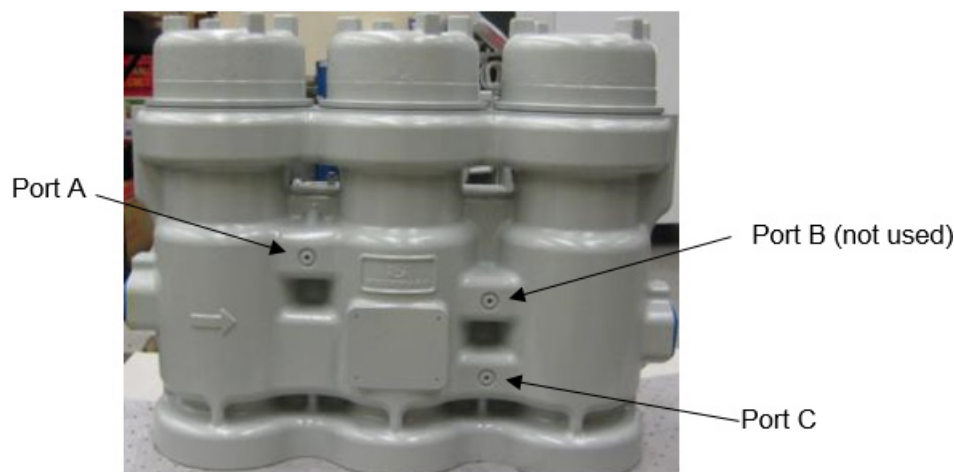

Figure 4-1. Pressure Test Ports
- While the position feedback circuits and LED's are the preferred method to determine module valve position, three pressure ports are provided on the front of the QuickTrip unit. These may be connected to pressure gages or pressure transducers and may be used to determine the state of any module valve element. The image in Figure 4-1 below shows these pressure ports. Note that Pressure Port B is not used. These ports are for standard dash-4 straight thread port fittings (7/16-20 thread size).